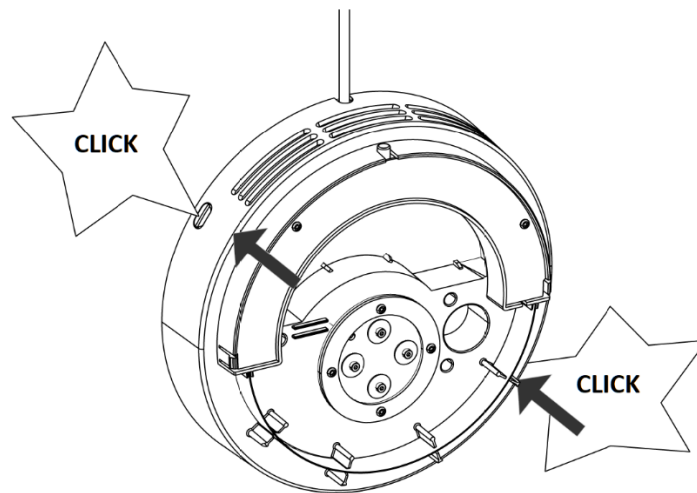

Figure 43 - The ventilation unit is clicked unto the wall cover
2. Push the ventilation unit in until it clicks onto the wall cover, see Figure 43 below.